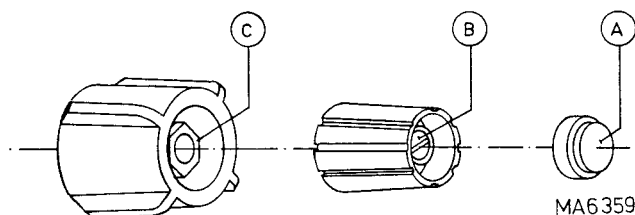

Fig. 9. Removing the knobs
3.2.3.2. Double knobs (Fig. 9)